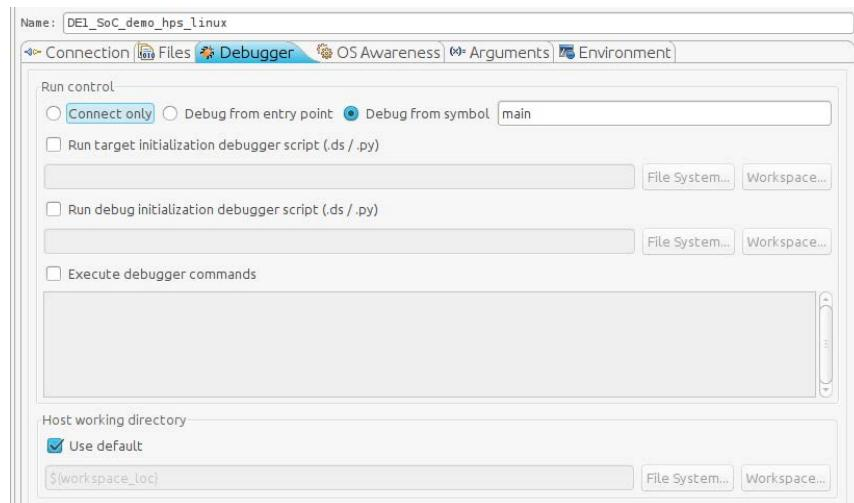

Figure 8-52. Debug Configuration "Debugger" Tab
- Under the "Debugger" tab, make sure that "Debug from symbol" is selected and that "main" is the name of the symbol, as shown in Figure 8-52.